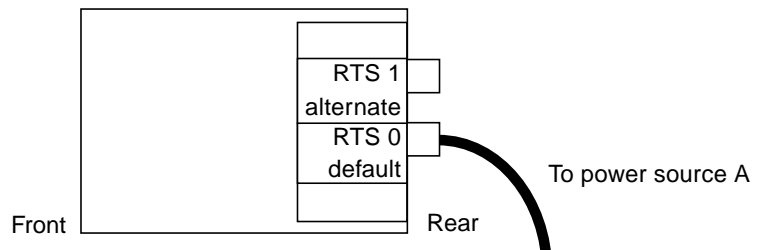

FIGURE 3-4 One RTU Assembly and One AC Power Source
- In configurations with one RTU assembly and one AC power sources there will be only one cable to connect (in the rear of the system on the left) (FIGURE 3-4).